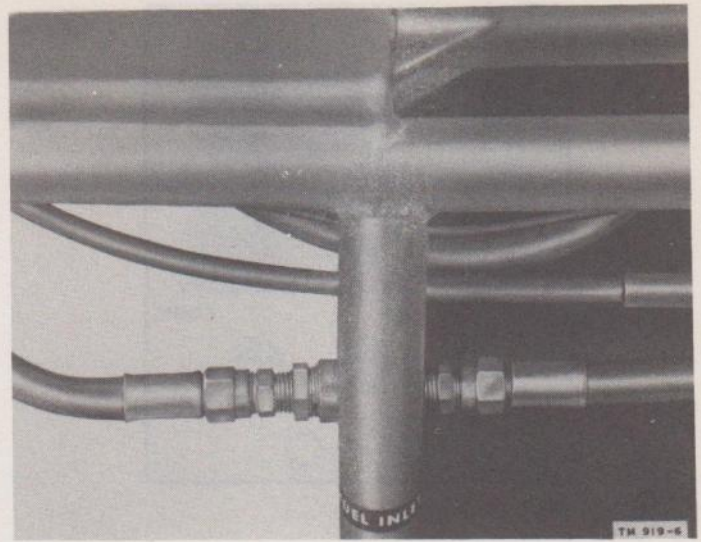

Figure 6. Fuel supply hose connection.
c. CONNECTING FUEL HOSE. Connect the 20-foot fuel hose to the coupling assembly located near the fuel filter on the right side of the unit as shown in figure 6. Connect the opposite end to the fuel drum adapter. Mount the adapter in an externally located fuel container. Be sure all connections are tight.